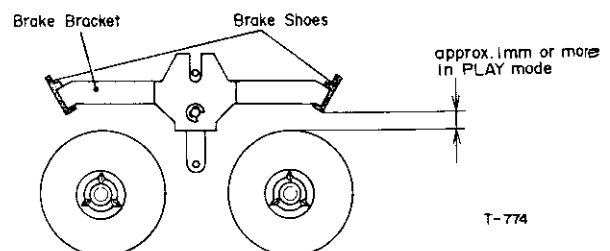

Fig. 4-8
3. Check that a clearance between the reel table and the brake shoes is as shown in Fig. 4-8.